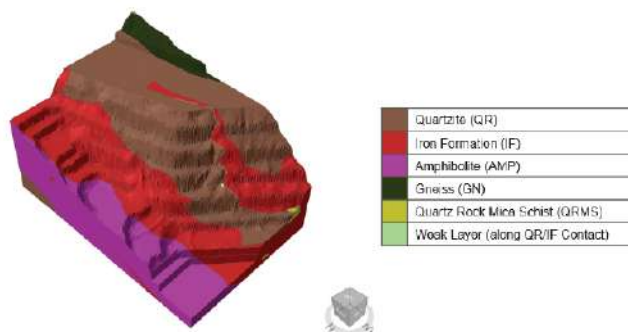

Figure 1. Geometrical model including the geological model
The mine geological block model was used as the basis for developing 3D geology solids to be used for the back-analysis modeling. These 3D solid files were clipped to the area of interest for Slide3 import and sectioned for use in RS2. Figure 1 depicts the geometrical model, including the geological model, used in the initial iteration of the base case model.
**Base model (V1)** – The geometrical model, including the geological model used in the initial iteration of the base case model, is depicted in Figure 1. The results of the isotropic rock mass model indicated that the slope was stable (minimum FOS = 6.5), suggesting that the estimated rock mass strengths alone do not effectively simulate the directional weakness that can control stability when persistent discontinuities are aligned with a direction of potential sliding. Nonetheless, the geometry of the lowest FOS slip surface did match well with the observed extents of the failure detected by the mine's GroundProbe slope monitoring radar, as shown in Figure 3a.